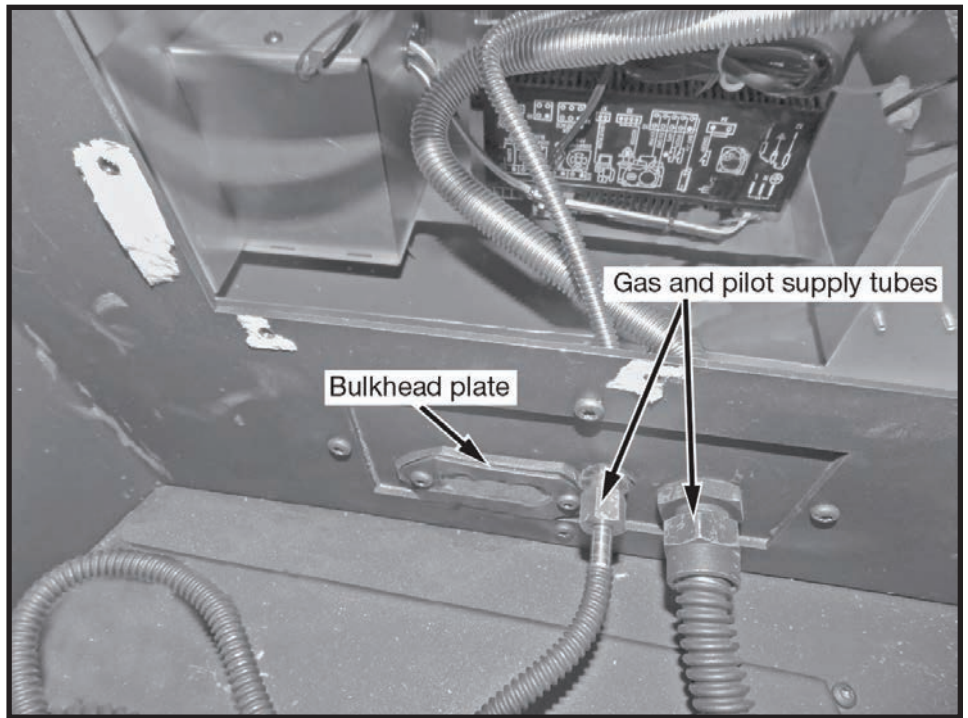

Figure 5: Gas and pilot supply tubes.
4. Attach the manifold gas and pilot supply tubes to the bulk head fitting and tighten (Figure 5).